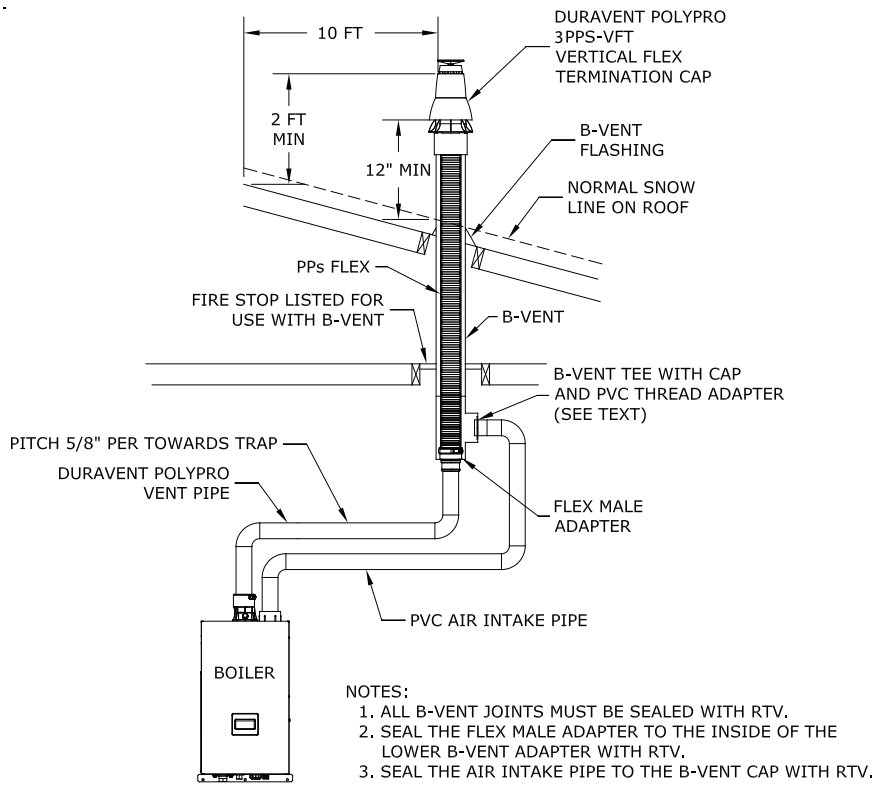

Figure 7.19: Duravent PolyPro B-Vent Air Chase System (Vent Option #9)
3. Requirements for B-Vent Air Chase Options – Observe the following additional requirements when using an abandoned B-vent chimney as an air chase as described in Options # 9 & 10. Also refer to Figures 7.19 & 7.20.
*Example: A 135MBH model is to be installed as using Vent Option 9 as shown in Figure 7.19. The following components are used:*